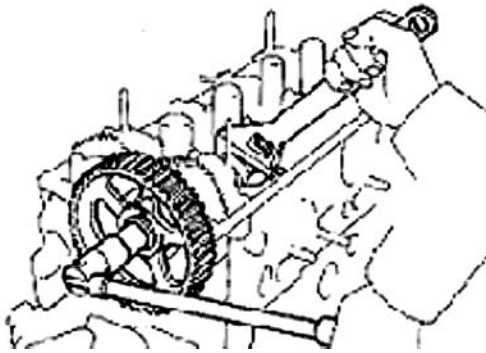

Figure 53
22. Remove the camshaft and the timing pulley. See (Figure 53)